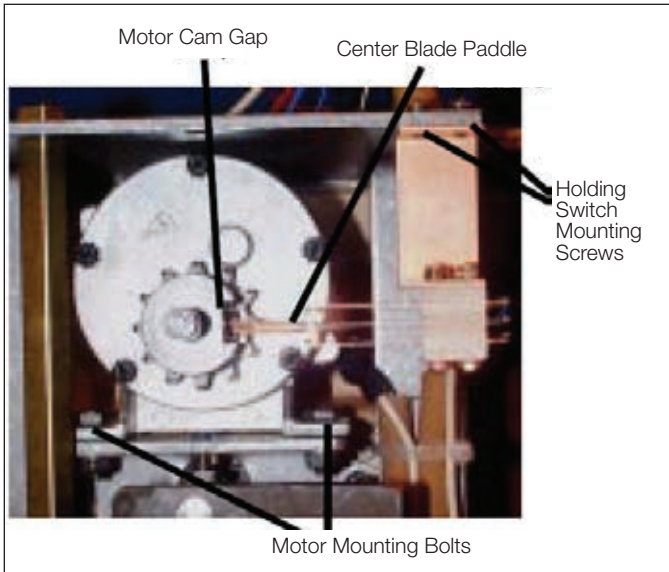

Figure 4.
2. The next adjustment to be made is the gap between the inside surface of the cam opening and the center blade paddle. See Figure 4. The gap requirement is 0.125 inch plus 0.015 minus nothing (metric 3.175 mm plus 0.381 minus nothing). One or both of the following methods may be used to adjust the gap.
Loosen the holding switch mounting screws. See Figure 4. Move the holding switch bracket toward the motor and tighten the screws while holding the bracket in place. Check the gap with a 0.125 inch (3.175 mm) gauge pin. If there is not enough adjustment with the holding switch mounting by using this method, adjust using Method 2.
This method requires the loosening of the motor mounting bolts. See Figure 4. Use two 7/16 inch (11 mm) wrenches to loosen the mounting bolts until the motor can be moved. Move the motor in towards or out from the center holding switch blade until the proper gap is obtained. Check the gap for proper fit, 0.125 inch plus 0.015 minus nothing (3.175 mm plus 0.381 minus nothing) and tighten the motor mounting bolts.